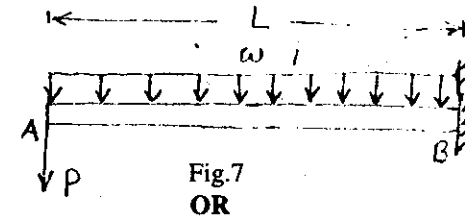

Fig.7
The cantilever beam AB supports a uniformly distributed load 'w' and a concentrated load 'p' as shown (Fig.7). Knowing that $L = 2 \text{ m}$, $w = 4 \text{ kN/m}$, $P = 6 \text{ kN}$ and $EI = 5 \text{ MNm}^2$, determine the deflection at A using Castigliano's theorem. (20)